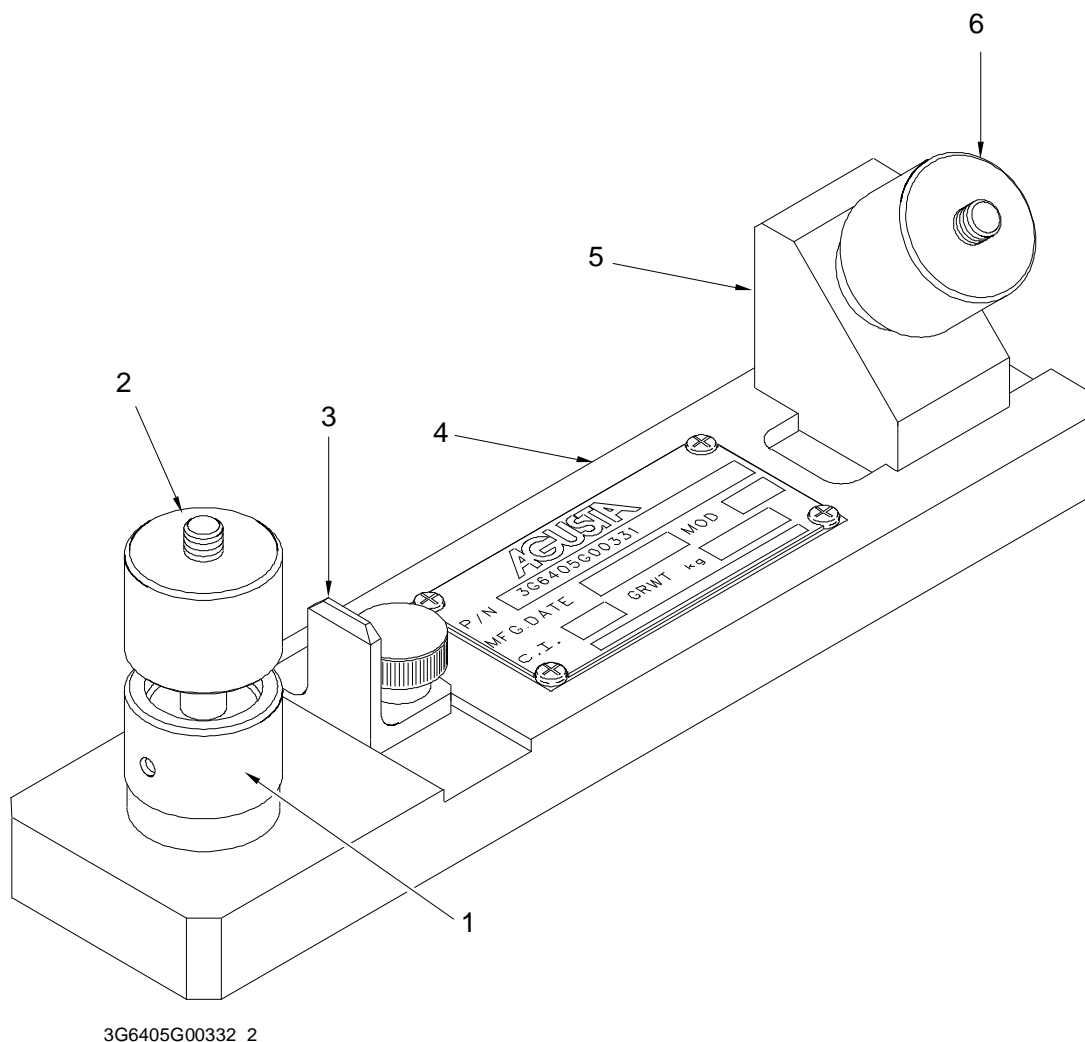

Figure 3 – Main Parts
Figure 3 – Main Parts .....	9
The tool is composed of a base (4, Figure 3) equipped with two supports (1 and 5), two knobs (2 and 6) and a stop (3) to allow you to adjust the correct length and angle between the pitch link bearings.